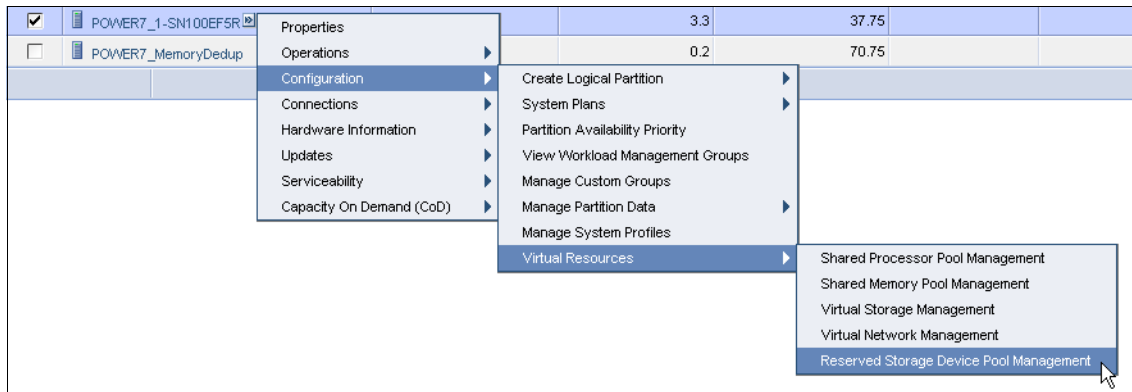

Figure 13-1 Reserved storage device pool management access menu
2. Click **Configuration** → **Virtual Resources** → **Reserved Storage Device Pool Management** as shown in Figure 13-1.
2. Click **Configuration** → **Virtual Resources** → **Reserved Storage Device Pool Management** as shown in Figure 13-1 on page 519.
- Click **Configuration** → **Virtual Resources** → **Reserved Storage Device Pool Management** as shown in Figure 13-1 on page 519.